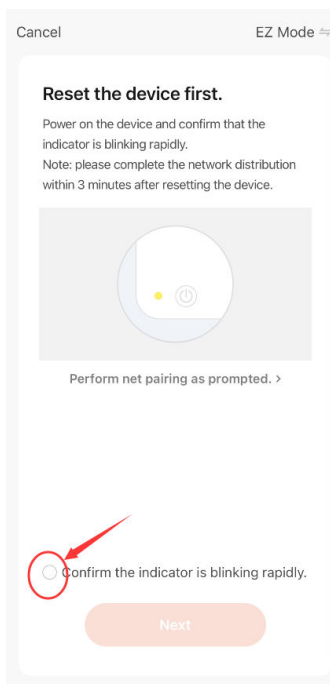

FIG.5
3. Press  (flame button) on the touch panel of the fireplace for more than 5 seconds when the fireplace is in standby mode. The  (time button) will flash as well indicating that Wi-Fi is in EZ mode. Then please confirm to go next. (FIG.5)